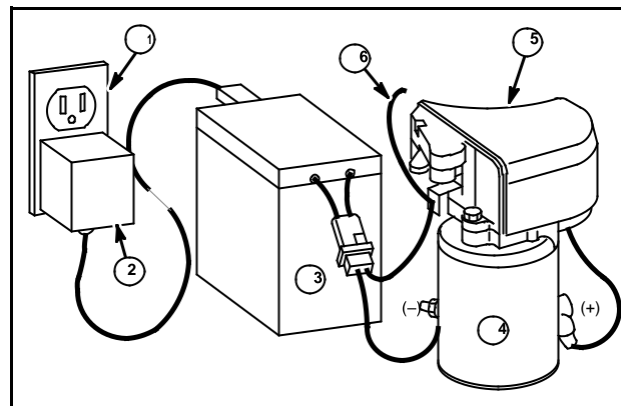

Fig. 8
Briggs & Stratton System 3 and System 4 consist of a starter motor (4), starter switch and/or starter solenoid (5), wiring harness, (wire #6 goes to engine alternator), 6 or 12 volt battery (rechargeable) (3), alternator, and separate trickle type battery charger (2). A typical System 3 or System 4 engine is shown in Fig. 8.